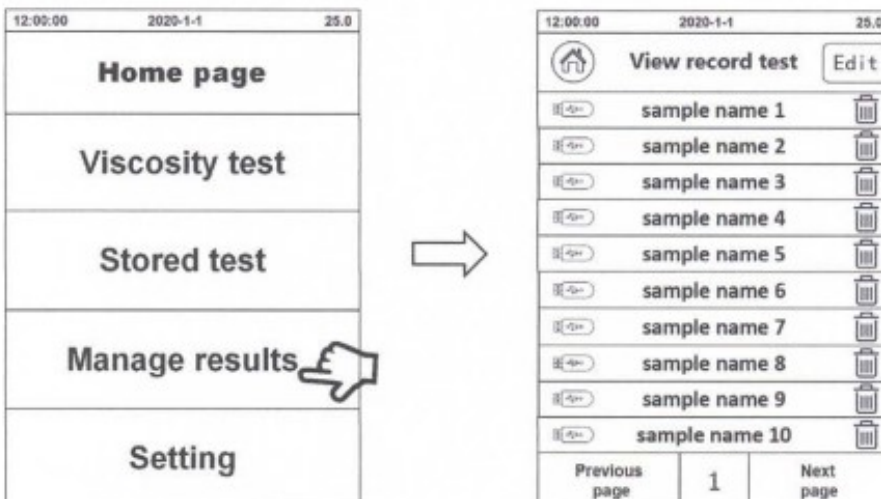

Fig. 25
6.3... Manage test records: After clicking "Manage results", the stored test records will be displayed on the screen (Fig.25). Select the required records to view, delete, and export the record by USB disk.